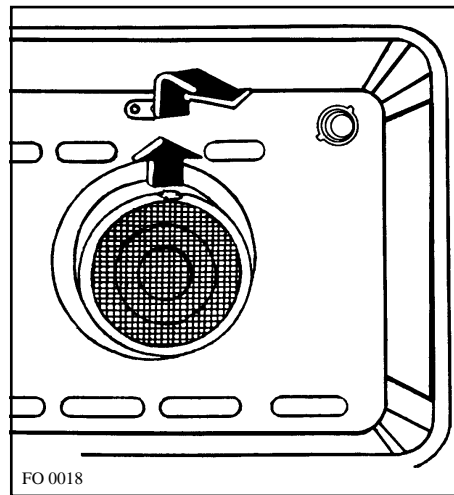

Fig. 11
- Push the protruding tongue on the filter, upward (See Fig. 11)